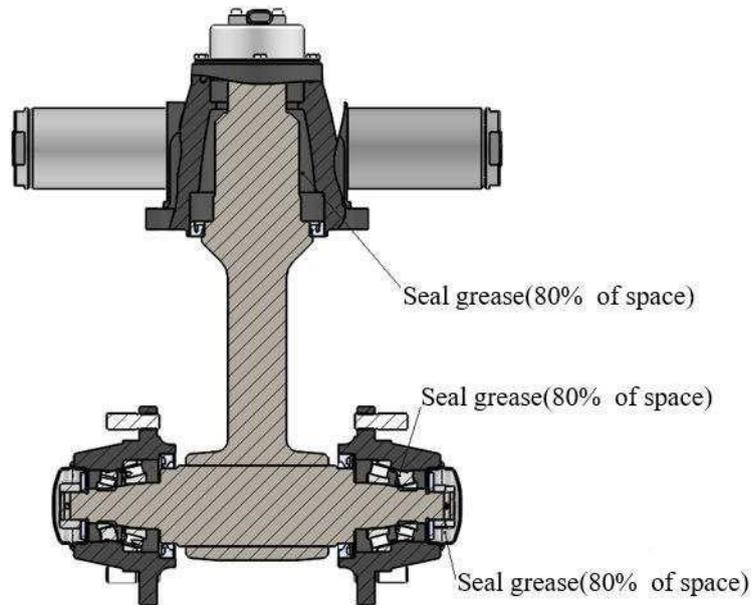

Fig. 3-5 Add grease and adjust preload
(1) As shown in figure 3-5, grease the inner cavity of the wheel hub, inner and outer bearings and the wheel hub cover, and grease the lip of the oil seal;
(2) Fix the outer ring of the bearing onto the wheel hub and install the wheel hub onto the steering knuckle shaft;
(3) Install the plain washer and tighten the groove nut with a torque of 206-23N.m (21-24kgm), loosen the groove nut, and then tighten the groove nut with a torque of 9.8N.m(1kgm);
(4) Gently knock the wheel hub with a wooden hammer and rotate the wheel hub 3-4 times to ensure that the wheel hub is not loose;
(5) Tighten the groove nut so that the groove is aligned with the cotter pin hole on the steering knuckle;